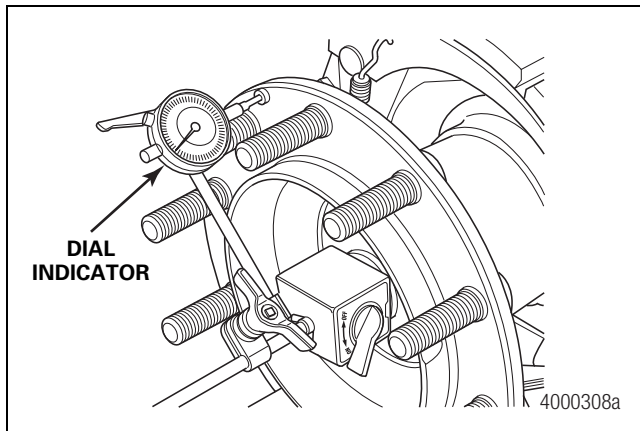

Figure 6.16
5. Remove the wheel and drum. Attach the magnetic base of a dial indicator onto the end of the spindle. Figure 6.16. Touch the indicator stem perpendicular against the unitized wheel end's mounting face.